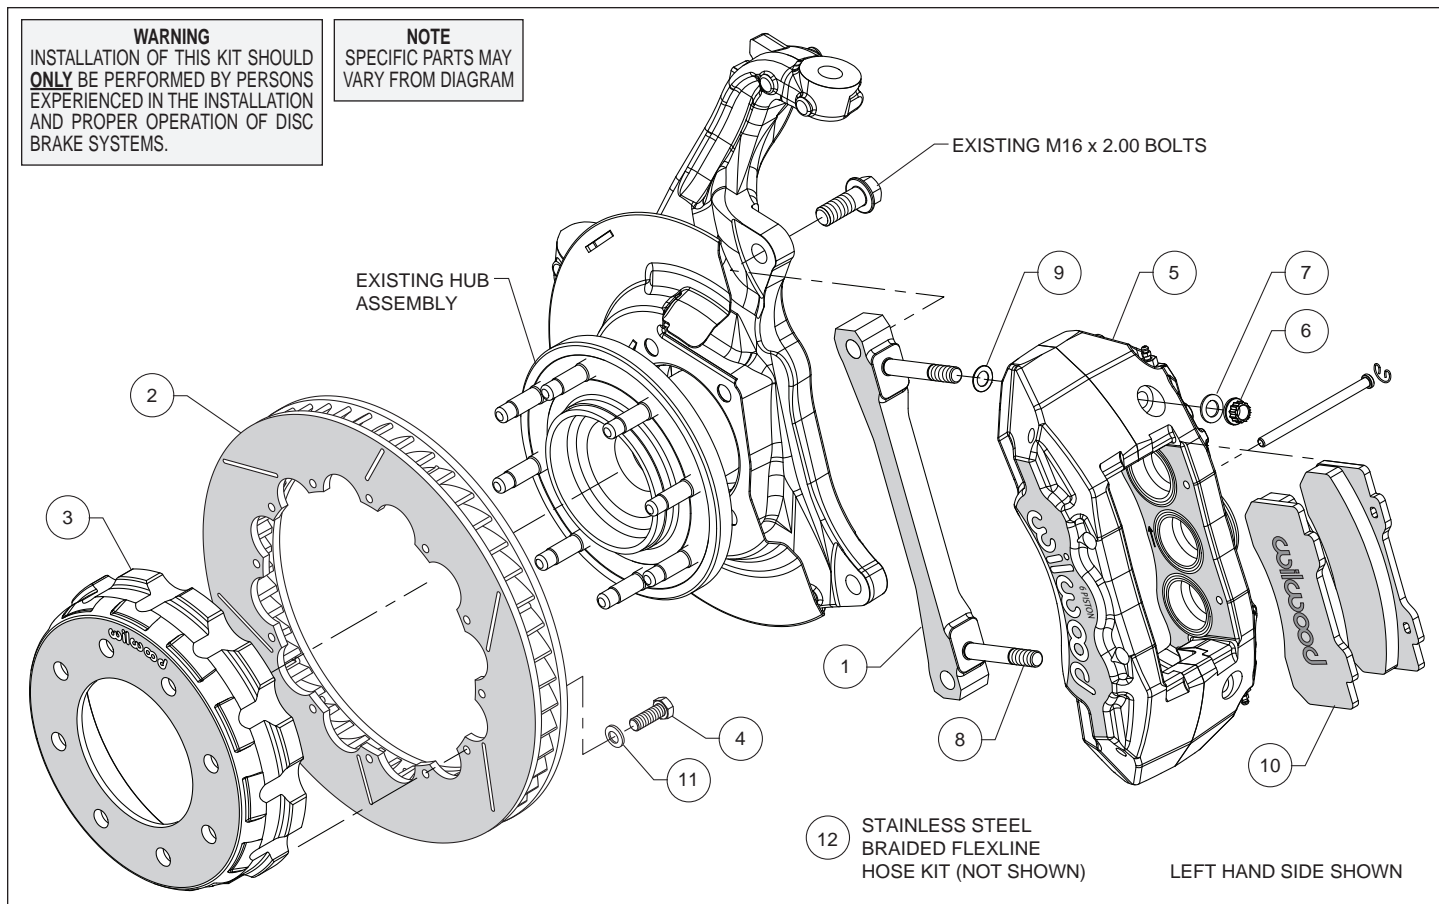
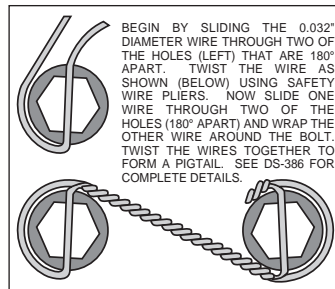

Figure 1. Typical Installation Configuration
Figure 3. Safety Wire Diagram
Assembly Instructions (numbers in parenthesis refer to the parts list and Figure 1 on the preceding pages):
- The caliper mount bracket (1) should initially be installed with clean, dry threads on the mounting bolts. Orient the bracket as shown in Figure 1 and Photo 1, and install using saved OE bolts. Temporarily tighten the mounting bolts. **NOTE:** The bracket must fit squarely against the mount bosses on the upright. Inspect for interference from casting irregularities, machining ridges, burrs, etc. Remove the mounting bolts one at a time and apply red *Loctite*® 271 to the threads and torque to manufacturer's specifications.
- Orient the rotor (2) and the hat (3) as shown in Figure 1 and Photo 2. Attach rotor to hat using bolts (4) and washers (11). Using an alternating sequence, torque to 25 ft-lbs. For an added measure of security, the bolts may be safety wired using standard 0.032 inch diameter stainless steel safety wire as shown in Figure 3. Please refer to Wilwood's data sheet DS-386 (available at www.wilwood.com/Pdf/DataSheets/ds386.pdf) for complete safety wire installation instructions.
- NOTE:** This kit contains distinct right and left hand calipers that must be mounted in a specific direction, as described below. Lubricate the caliper mounting studs (8) with lightweight oil. Initially place one .032" thick shim (9) on each stud as shown in Figure 1 and Photo 3. Mount the caliper (5) onto the bracket (1) using lock nuts (6) and washers (7), Figure 1. Ensure that the caliper is mounted so that the largest pistons are at the rotor exit end of the caliper, in relation to the direction of rotor rotation. Temporarily tighten the lock nuts.